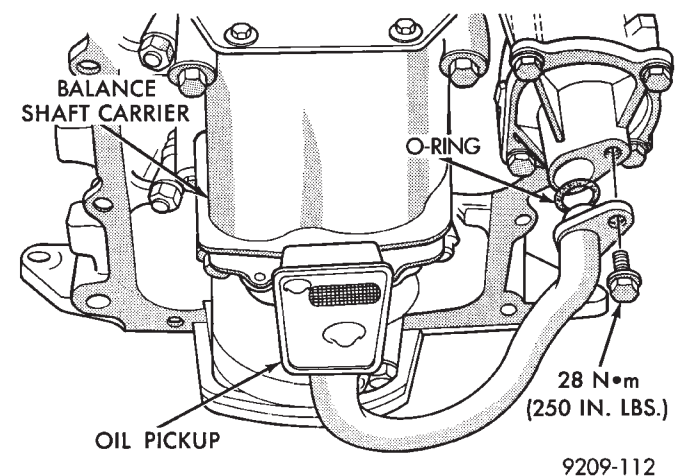

Fig. 4 Oil Pick-Up
A formed steel oil pan provides lower engine protection as well as serving as the engine oil reservoir (Fig. 1). Pan side flanges to block are sealed with gaskets. The 2.5L engine pickup is unsupported and the lower end has a box type strainer (Fig. 4).
(1) Remove screw on pump cover holding oil pick-up tube to oil pump. (Fig.4)
(2) Remove oil pick-up tube. **When reinstalling make sure to use a new O-Ring on pickup tube.**